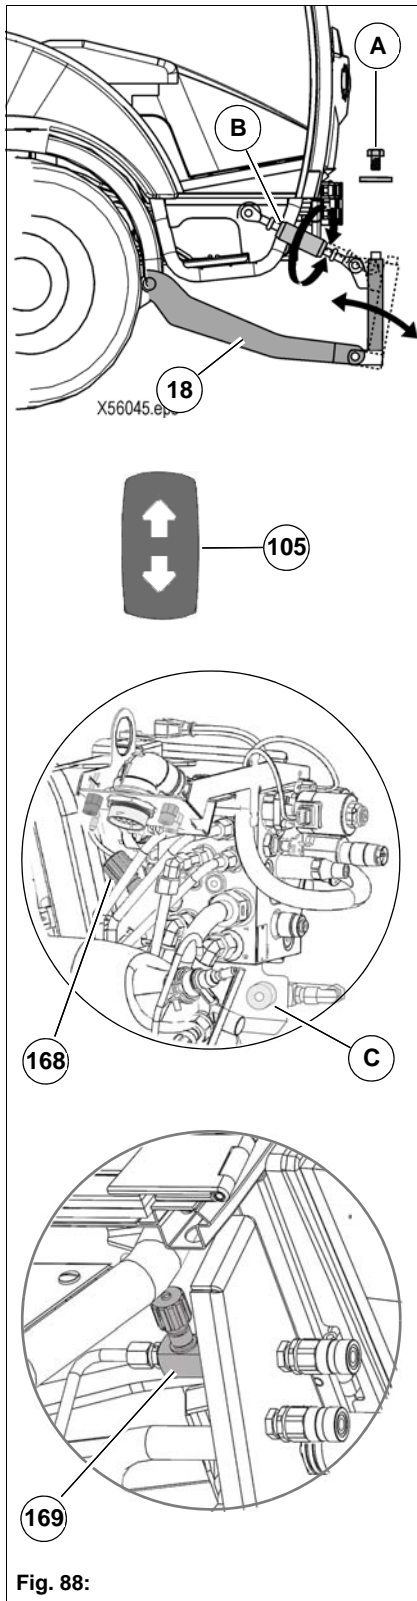

Fig. 88:
2. Remove the hexagon bolt and the washer **Fig. 88-A** of the front tool carrier.
3. If necessary, slightly tilt the front tool carrier forwards with the upper link **Fig. 88-B**.
7. Install the hexagon bolt and the washer **Fig. 88-A** to secure the front tool carrier.
The lowering speed of the front tool carrier is adjusted using the throttle valve **Fig. 88-C**. The throttle valve is located behind the cab on the right-hand side.
The lowering speed of the external front tool carrier is adjusted using the throttle valve **Fig. 88-169**. The throttle valve is located under the cab on the right-hand side. The suction mouth must be locked in the top position using the throttle valve **Fig. 88-168** or the throttle valve **Fig. 88-C**.